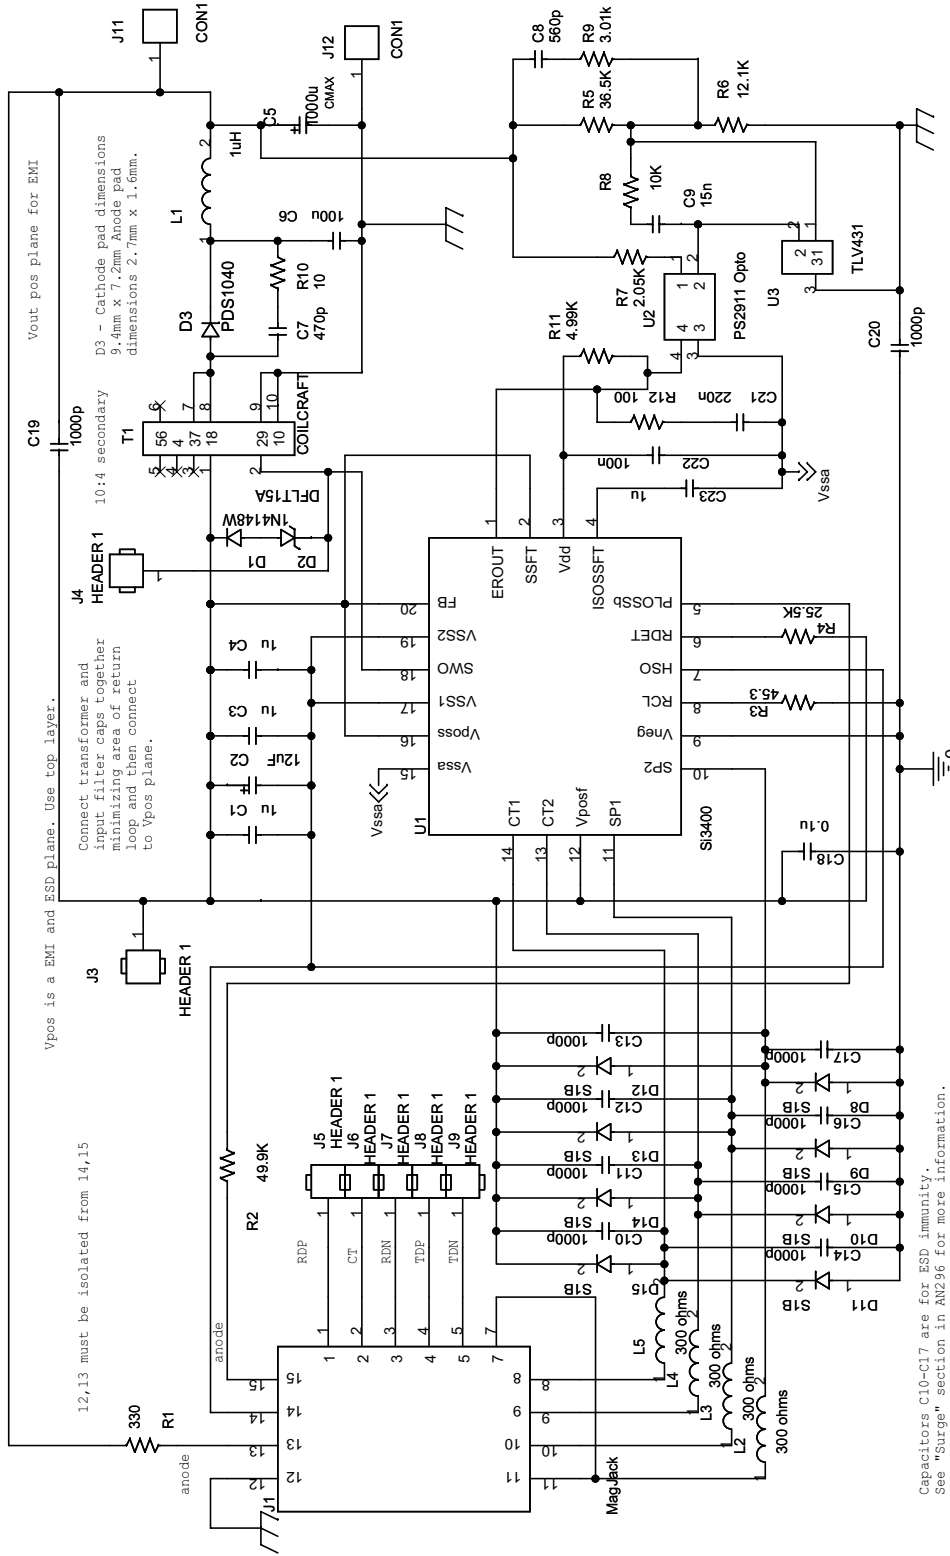

Figure 1. Si3400/01 Schematic—5 V, Class 3 PD
The board itself has no Ethernet data transmission functionality. The dc output is at connectors J11(+) and J12(-). Boards are generally shipped configured to produce +5 V but can be configured for +3.3 V or other output voltages as shown in Table 1 on page 9. The Si3400ISO-EVB and Si3401ISO-EVB board schematics and layout are shown in Figures 1 through 6. The evaluation boards for the Si3400 and Si3401 are essentially identical; the only differences being that the diode bridges are bypassed (populated) and that the PD controller on the Si3401ISO-EVB is the Si3401.
- g. Based on your required PD power level, select the appropriate class resistor value by referring to Table 2 of AN296. This sets the Rclass resistor (R3 in Figure 1 on page 2).